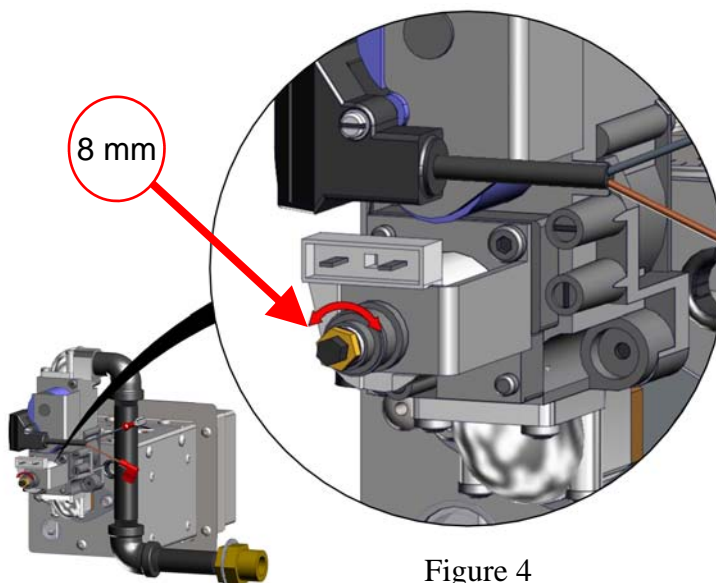

Figure 4
- Using an 8mm socket turn the High Flame Bias screw (Figure 4) until desired setting is achieved. Use chart on next page (Figure 5) for correct valve settings.